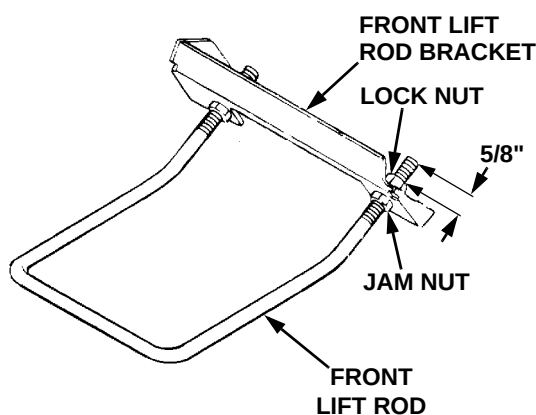

Figure 64
- If making the initial installation of the deck, adjust the front lift rod to allow 5/8 inch of thread to protrude beyond both lock nuts of the front lift rod/bracket assembly (See Figure 64).
- To adjust the downward tilt of the blades, adjustment of the front lift rod is required. Refer to Figure 64 and proceed as follows: